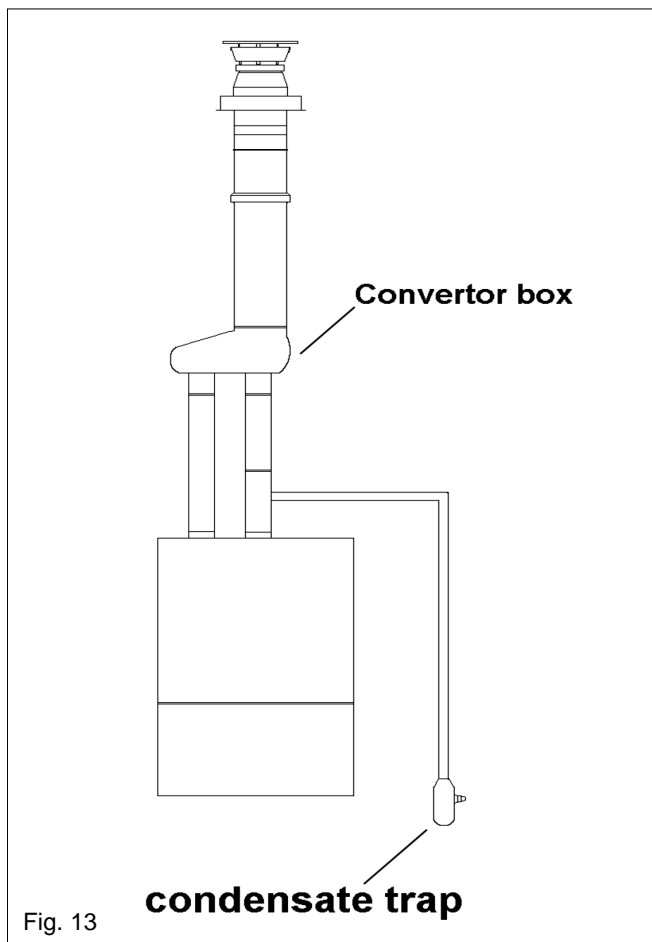

Fig. 13
4.5.3.4 VERTICAL TERMINATION (See fig. 13)